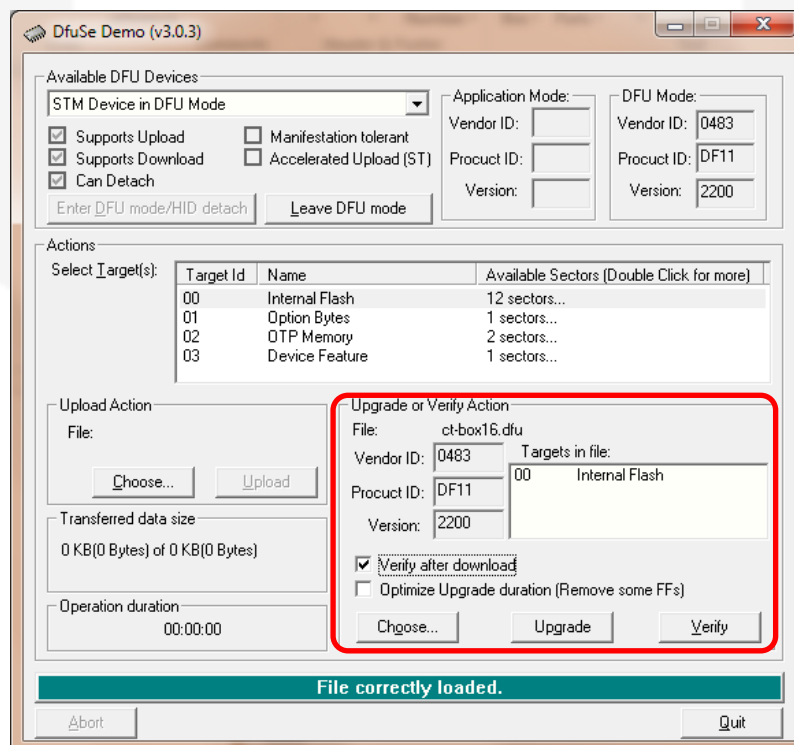

Figure 3.3: DfuSe Upgrade setup.
- Under **Upgrade or Verify Action** (Figure 3.3), click on “Choose” and select the new firmware file (.dfu) to be downloaded into the CT-BOX:
- Check the box “*Verify after download*” (Figure 3.3) and click “Upgrade”;